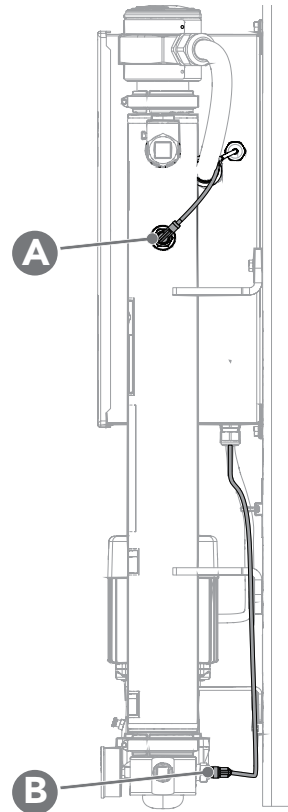

Figure 16. CLV high-limit RTD (A), control RTD (B) and RTD plug detail (C).
2. Close isolation valves. Drain fluid from the heating tank. Locate the RTD that requires replacement. See *Figure 16*.
3. Unscrew RTD plug. Remove plug. See *Figure 16*.